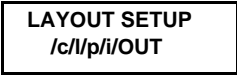

**Figure 8-130 Color Video Printer Window Display (INPUT SETUP top menu displayed)**
- 1.) Return to the INPUT SETUP top menu using the  button (Figure 8-130).
- 4.) Set the NTSC/PAL selector switch to PAL or NTSC as shown in Figure 8-130 "Color Video Printer Window Display \(INPUT SETUP top menu displayed\)" on page 8-143.